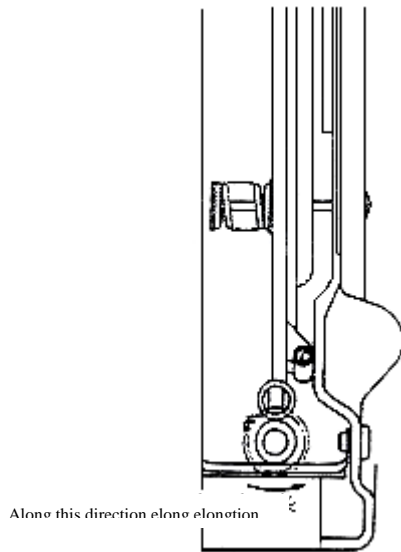
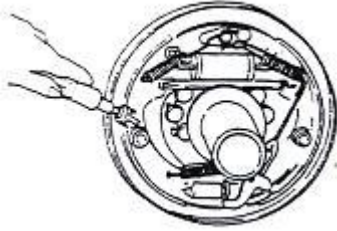

Figure 2-9 Clearance self-adjusting mechanism
Figure 2-13
If braking during reversing of the forklift, the auxiliary and main brake shoes contact with each other and rotate together, so that the lever will rotate rightwards around A point as shown in Figure 2-13, and B point is then elevated. After the brake is released, the lever will rotate leftwards by the spring force to lower B point. When the clearance between brake hub and friction disk is enlarged, the vertical distance of B point's rotation will increase. The regulator will be toggled for one more tooth and the regulating lever lengthens (see Figure 2-9), so that the clearance shrinks. Clearance adjustment range falls within 0.40mm ~ 0.45mm.
(3) Remove the fixing spring on the main brake shoe. See figure 2-13